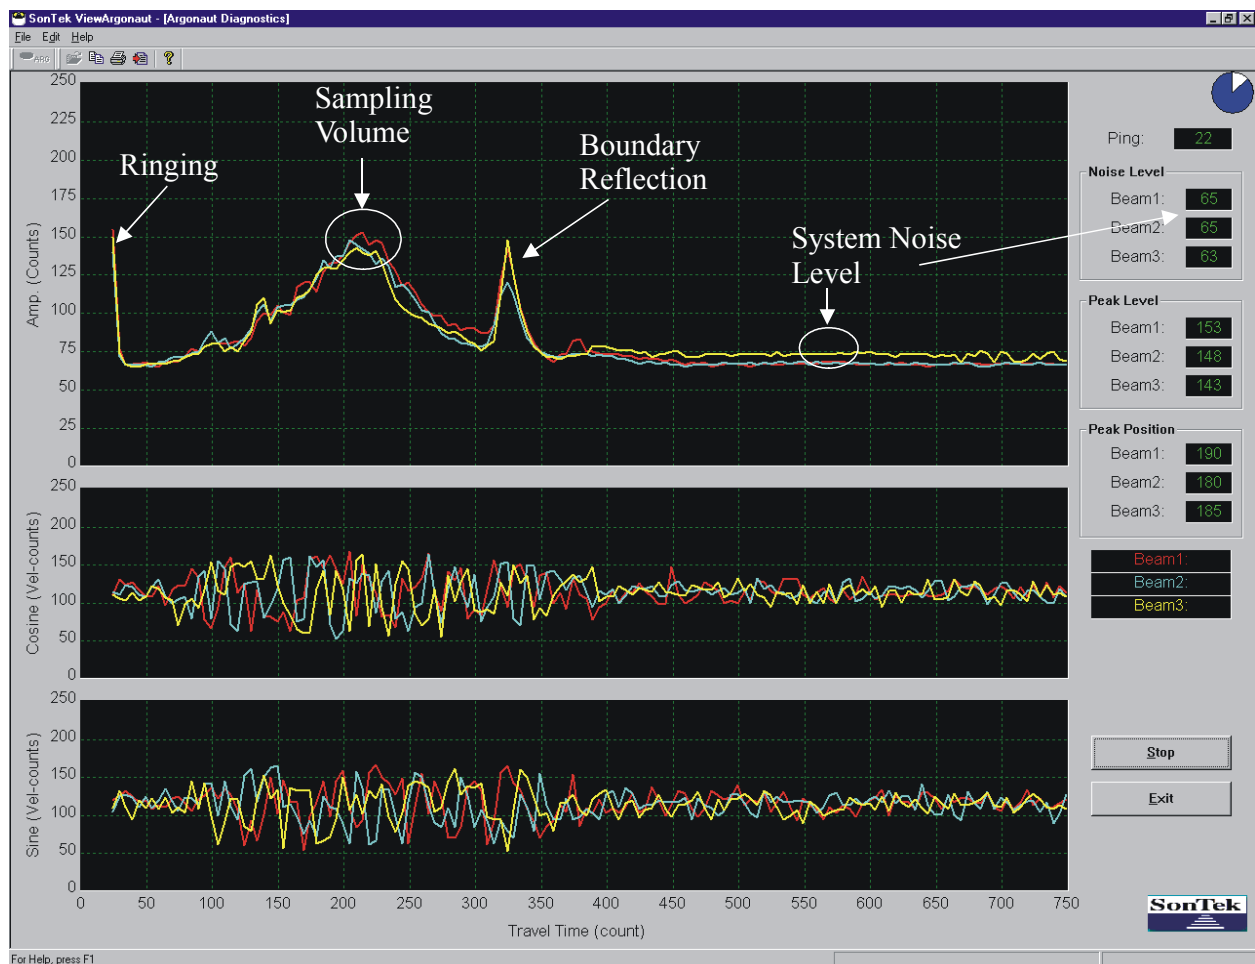

Figure 3 – Diagnostics Sample Output
Diagnostics operates in the following manner (Figure 3; Note that the layout of your display may differ from that shown in the figure, but the same basic displays and controls will be the same).
The plot of signal strength versus time shows several features (Figure 3).
- If the probe is close to a boundary (bottom, surface, or side), a sharp reflection should be seen. The size and shape of this reflection will vary depending on the nature of the boundary, its distance from the Triton, and the acoustic conditions of the water. We can estimate the distance from the probe to the boundary by the location of the boundary reflection. In Figure 3, this occurs at about 320 counts or 19 cm from the probe.